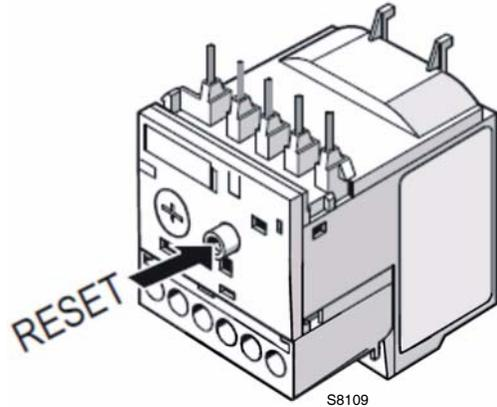

Fig. 29
- To reset, in the case of an intervention of the thermal relay, press the button "RESET" (Fig. 29).